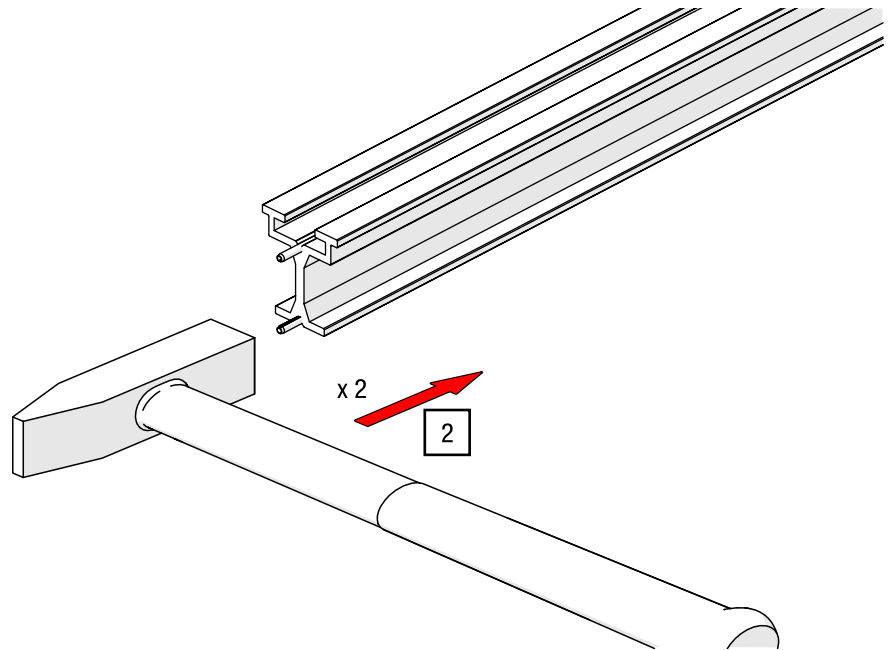

Fig. 43: Track splice – Hammer in the connecting pin
2. Carefully hammer the connecting pins halfway into the track (see Fig. 43).